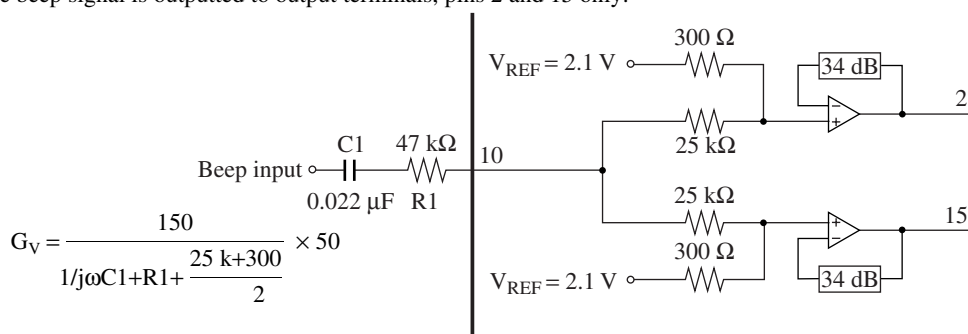

Figure 7
- 1) The application circuit using the beep sound input is shown in figure 7. Connect the beep signals from the microcomputer to pin 10 via the capacitor C1 for DC cut and the resistor R1 for voltage gain adjustment.